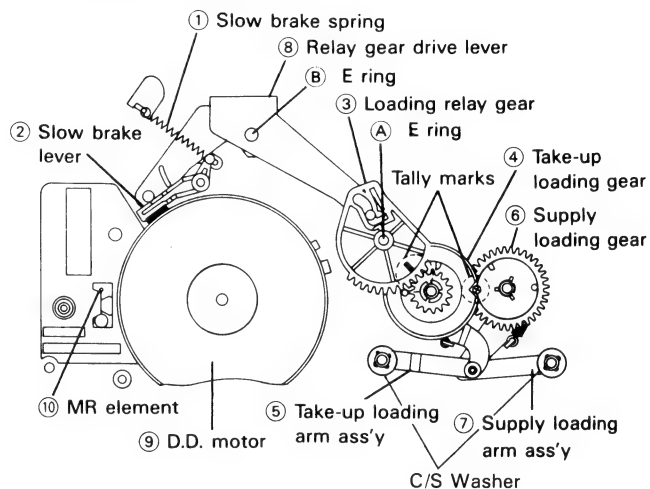

Figure 1-31.
2. In reassembling, match the tally marks on the gears, as shown in Fig. 1-31
1. Place the relay gear drive lever in the unloading state as shown in Fig. 1-31.
2. Set the relay shifter lever ④ to the main chassis; the shifter lever should be adjusted to the reverse guide spring hole in the main chassis. Then place the master cam so that the cut-off part of the boss ③ should face the direction of arrow ⇒ ⑤.
3. Place the half-loading reciprocating lever ① so that its cam follower comes in the outermost cam groove. Now attach the E ring ①.